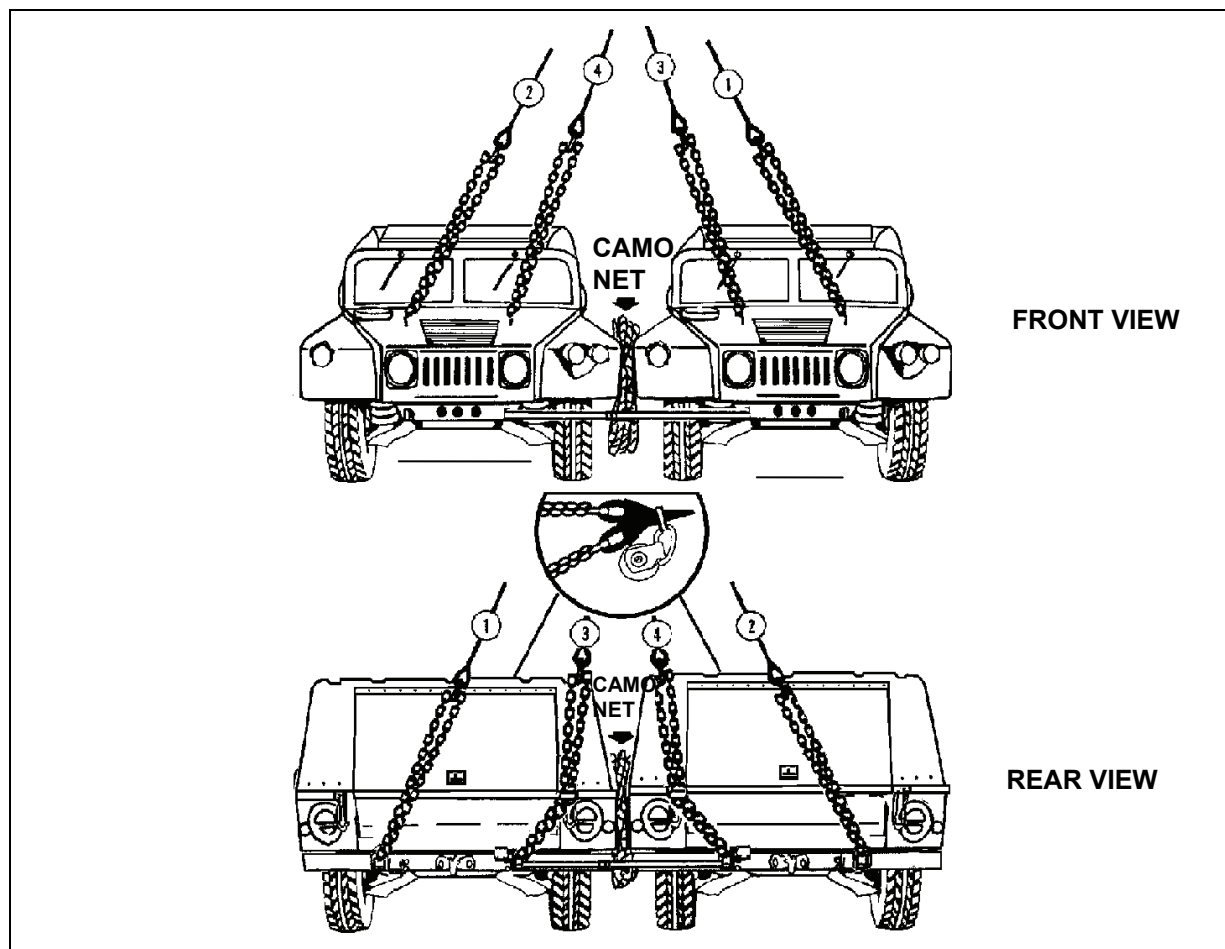

Figure 2-18. Dual HMMWVs, Side by Side, with AMTECH Helmet Hardtop Basic
- **Rigging.** Rig the load according to the steps in Figure 2-18.